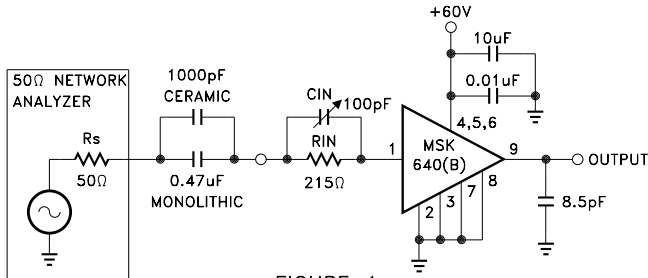

FIGURE 1
- ① RIN = 215Ω, CIN = 100pF, CLOAD = 8.5pF, RL = ∞, unless otherwise specified (See Figure 1).
- ② Guaranteed by design but not tested. Typical parameters are representative of actual device performance but are for reference only.
- ③ Industrial grade devices shall be tested to subgroups 1 and 4 unless otherwise specified.
- ④ Military grade devices ('B' suffix) shall be 100% tested to subgroups 1,2,3 and 4.
- ⑤ Subgroup 5 and 6 testing available upon request.
- ⑥ Subgroup 1,4    TA = TC = +25°C
The signal source in Figure 1 can be either a fast pulse generator or a network analyzer as long as the output impedance is 50 ohms. The DC level of the input should be 1.55V and all cables should be kept as short as possible. Since total load capacitance should be kept below 8.5pF, a FET probe should be used on the output.
Transimpedance amplifiers relate input current to output voltage. The MSK 640 contains an internal 3K $\Omega$  feedback resistor. This resistor converts input current to output voltage in the following manner (See figure 1):